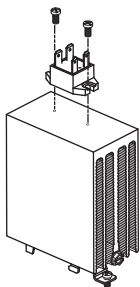

fig. 1 EL Series SSR mounted on heat sink
- ◆ EL series SSR mounting slots have a diameter of 0.16 in (4.0 mm). Two screws are needed (not included) to mount the EL onto heat sink (See **fig. 1**). Recommended screw size is 8-32 (UNC standard) or M4 (metric).